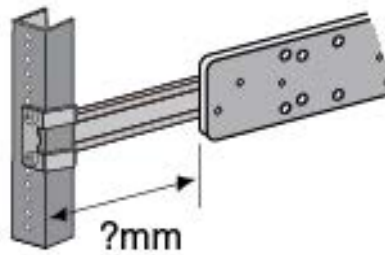

Figure 77. Measuring for the Extension Brackets
3. Measure the distance from the front of the equipment rack to the front of the inner rail. This will be the approximate length of the extension brackets. Refer to Figure 77.